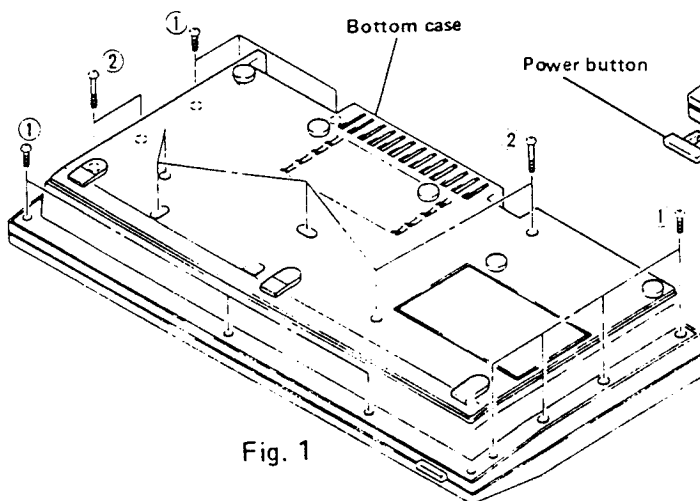

Fig. 1
1. Top case (Fig. 1, 2)
Remove ten screws ① and seven screw ② of bottom side. (Fig. 1)